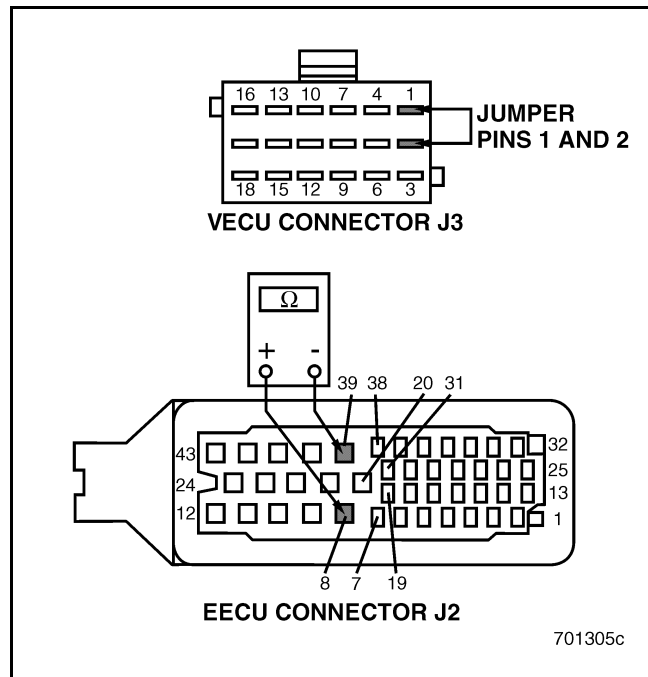

Figure 647
5. Check for continuity between EECU connector J2 pin 8 and pin 39 (see Figure 647).